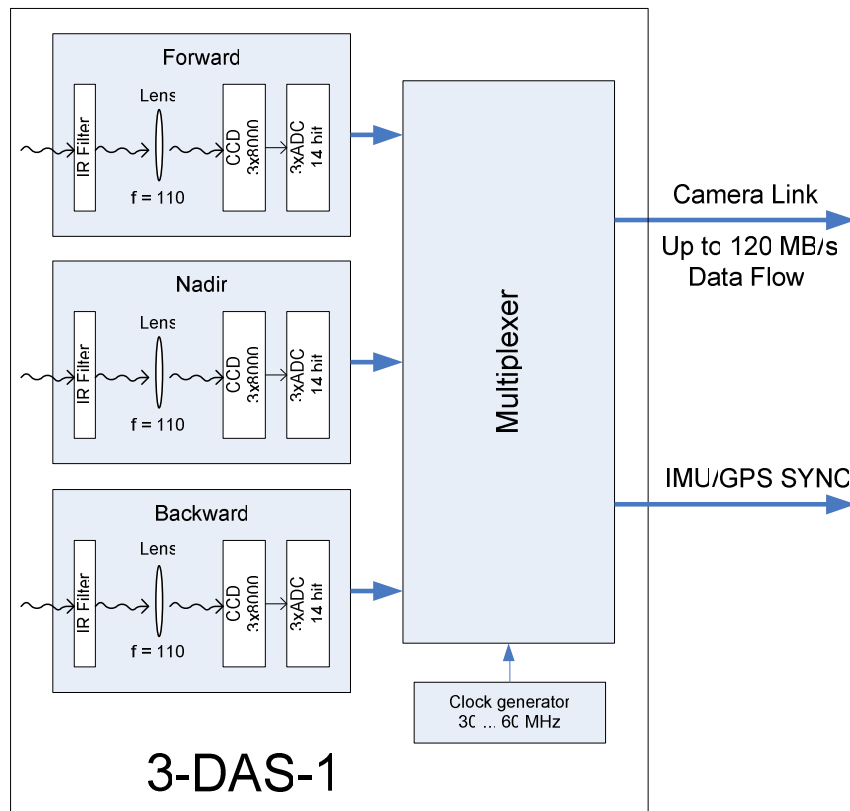

Figure 2: Flowchart of 3-DAS-1 scanner.
- Scanner is a three-channel system, each channel of which contains light-sensitive CCD-sensor, optic-mechanical system, electronic system to control and signal conversion. (Figure 2)